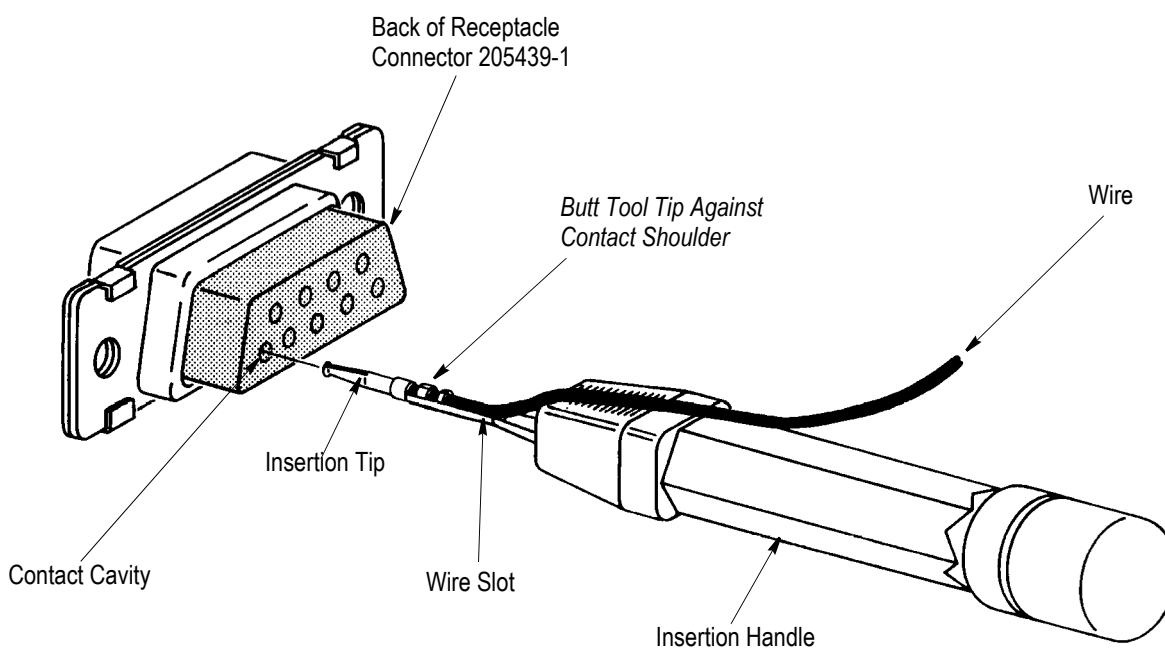

Figure 3
4.1. Inserting A Wire Crimped Contact (Figure 3)